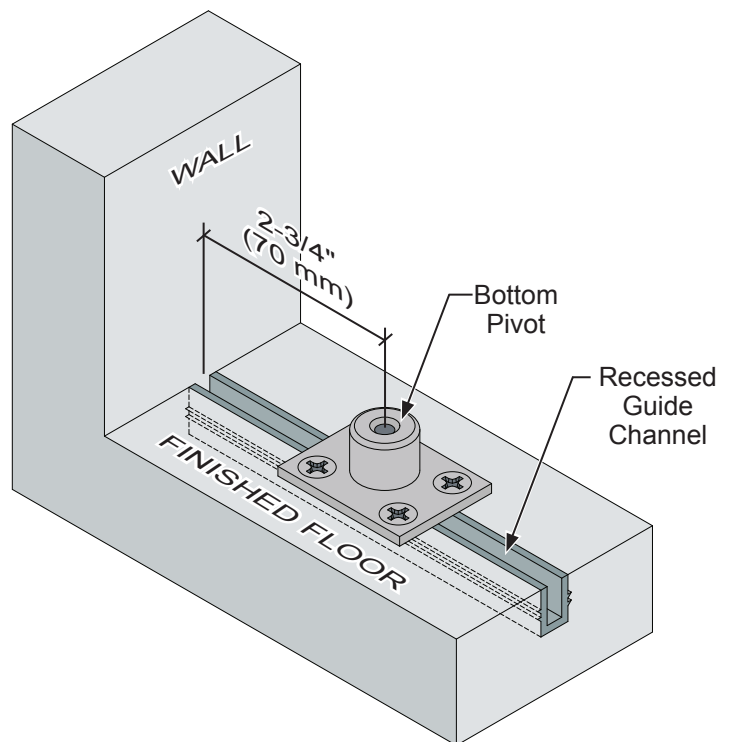

FIG. 5
2. The Bottom Pivot is installed into the finished floor 2-3/4" (70 mm) from the wall and on the centerline of the Guide Channel. (FIG. 5)